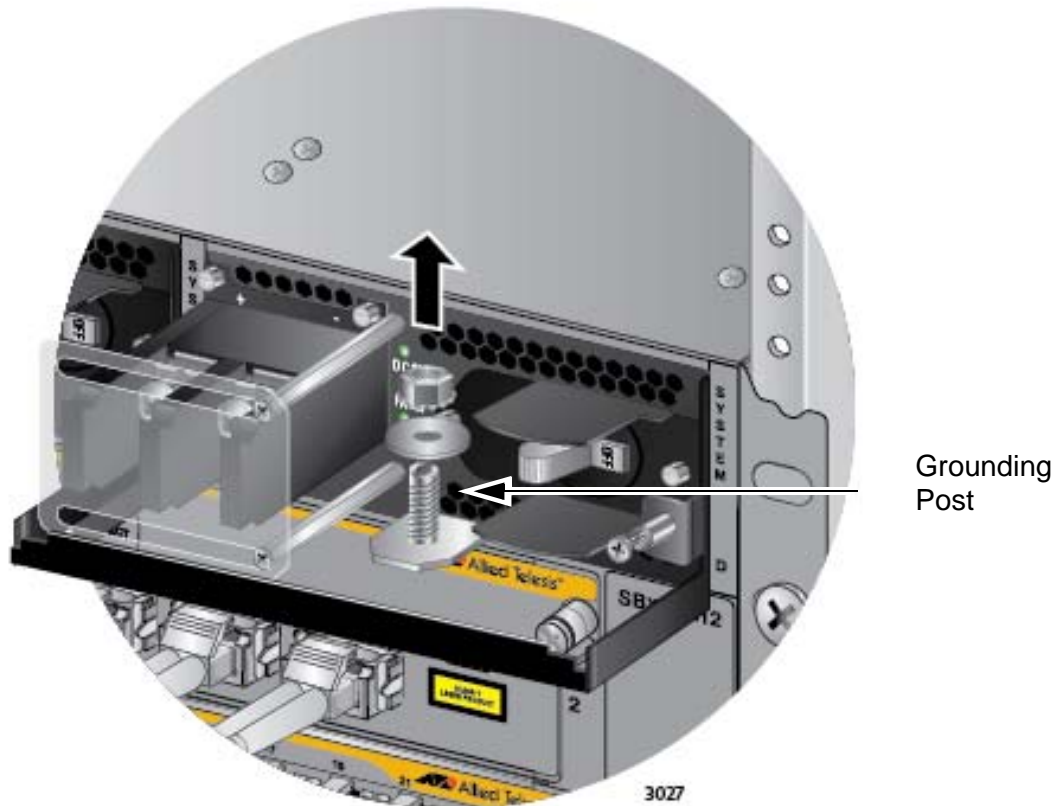

Figure 132. Removing the Nut and Washer from the Grounding Post
3. Use an 8 mm wrench to remove the grounding post nut and washer, shown in Figure 132, from the power supply.
2. Use an 8 mm wrench to remove the grounding post nut and washer, shown in Figure 132 on page 213, from the grounding post on the power supply.